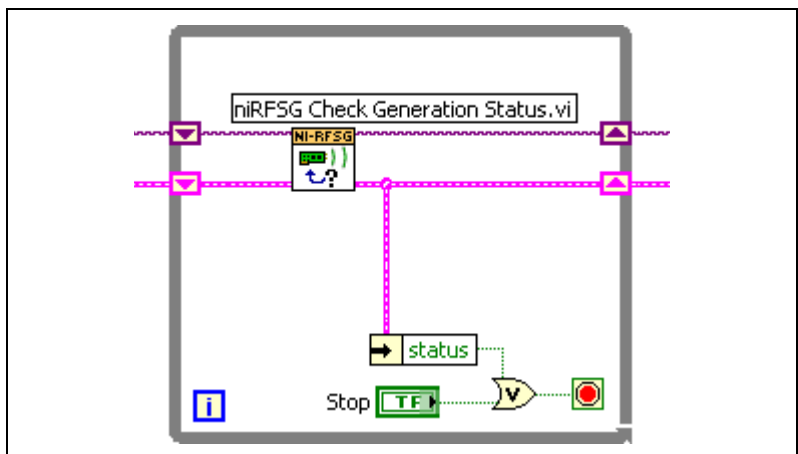

Figure 17. While Loop with STOP Button
21. Right-click the unused input terminal of the Or gate and select **Create»Control** to create a STOP button on the VI front panel. The portion of the block diagram resulting from steps 18 through 21 is shown in Figure 17.